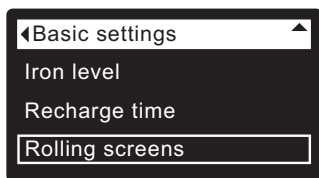

FIG. 52
3. Press the SELECT (O) button to display the Basic settings menu (See Figure 52).
7. To un-select a screen, make sure its name is highlighted in a box. Then press the SELECT (O) button. The black square will disappear. Pressing SELECT (O) again makes the black square reappear and re-selects the highlighted item. At least one screen must be selected/highlighted.
8. When selections are complete, exit this menu by pressing the LEFT (◀) button. The display will go back to the Basic settings menu (Figure 52).